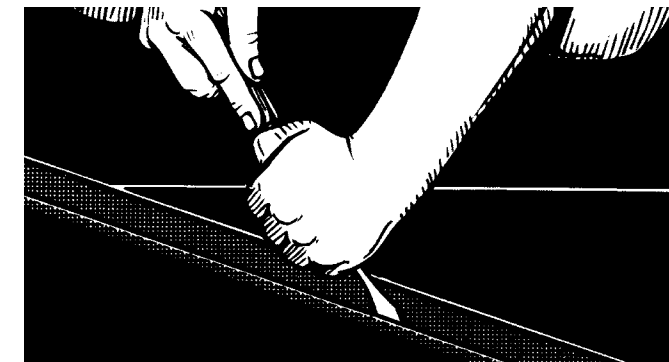

Fig. 5-10
15. Prod the top ply loose along the bias line where the cut was just made. Be very careful as you can easily damage the fabric (Fig. 5-10).